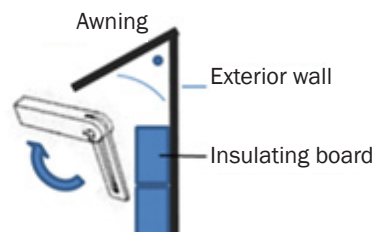

Fig. 6
- Using a measurement or sliding bevel (item no. 36 82 00), take the mitre angle on the object and transfer it to the horizontal side of the board (Fig. 6 + 7),
- Fold out mitre tool (27) to the front, place board on bearing rail (6),
- Swivel cutting bow (3) to the right until the mitre tool (27) of the cutting bow matches the marking on the insulating board. Tighten the set screws (15) at the top and bottom again.
- To repeat this cut later, move the repeat tabs (14) to the set angle. The angle is retained after the cutting bow has been reset.